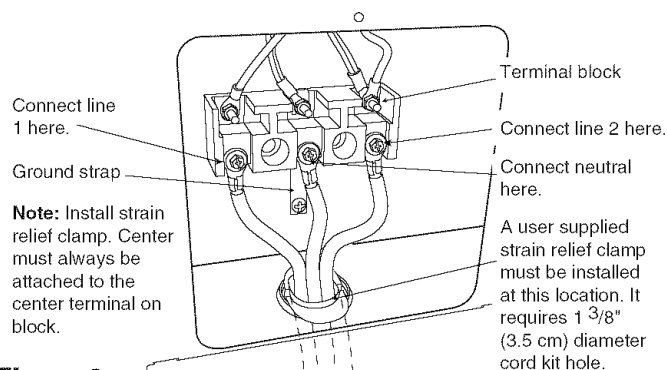

Figure 9
For existing installations ONLY, refer to Figure 9.
- 2 Connect the end connectors for line 1, line 2 and neutral and tighten securely to the terminal block. See Figure 9.
- 3 A ground strap is installed on this range which connects the center terminal of the neutral terminal block to the range chassis. The ground strap is connected to the range by the center, lowest screw. See Figure 9. The ground strap must not be removed unless National, State or Local Codes do not permit use of a ground strap.